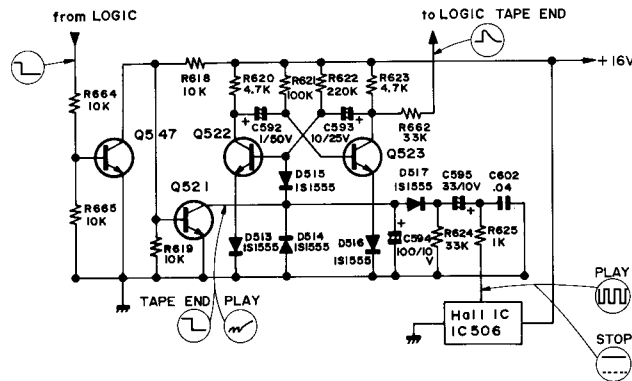

Figure 26-1
3.4.7 Full Auto Stop Circuit (Refer to Figure 26-1)